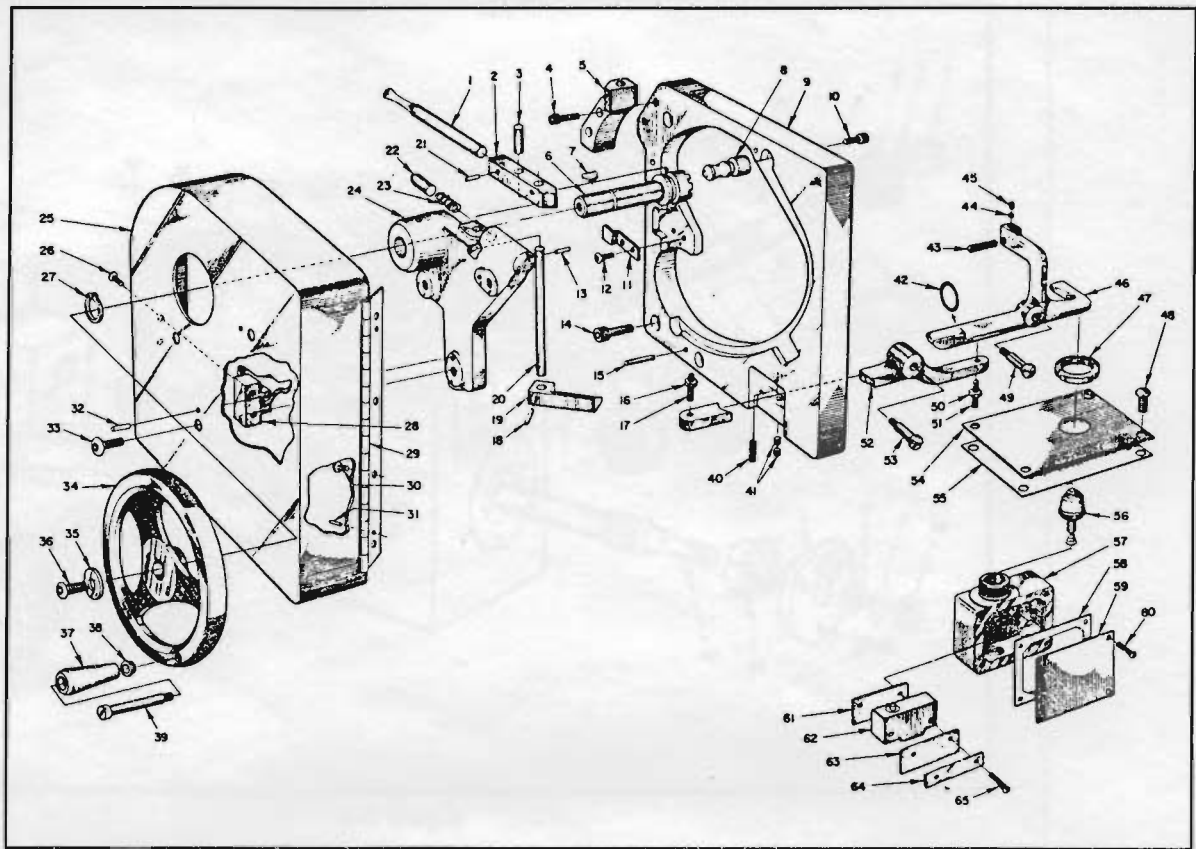

Figure 3-7
32. Use Figure 3-7. Remount feed gear box (Item #9) on two (2) dowel pins (Item #15). (Dowel pins will most likely stay in the gear box bracket when the bracket is removed.)
33. Secure feed gear box bracket with three (3) cap screws (Item #14).
34. Replace turret slide lever bracket (Item #5) with two (2) cap screws (Item #4).
35. Reattach "L" shaped oil line support bracket to feed gear box bracket with two (2) button head screws.